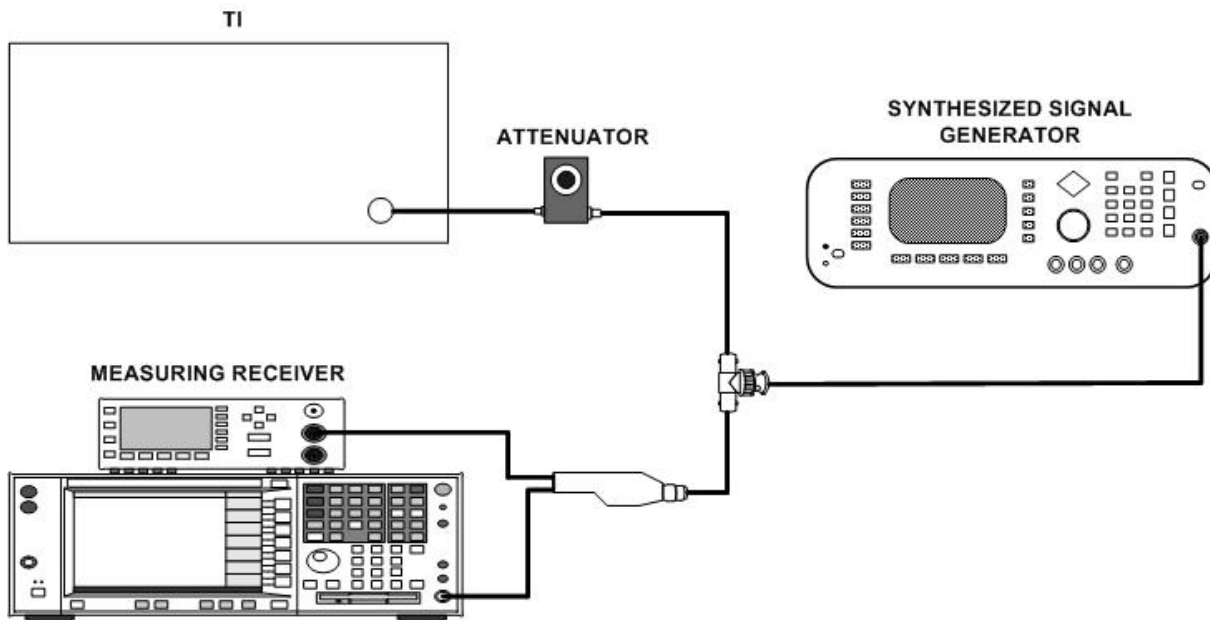

Figure 2. Frequency deviation - equipment setup.
(1) Connect equipment as shown in figure 2.